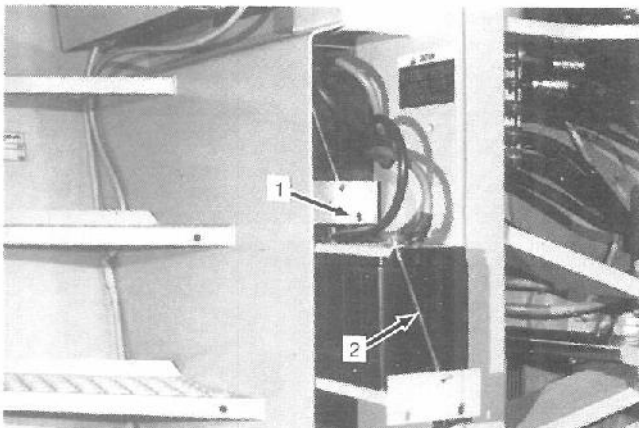

Figure 17:
2. Remove 2 capscrews on the lower end of battery tray bases. (Fig. 17)
3. Pull batteries toward the rear for access to terminals, and/or removal. (Fig. 17)